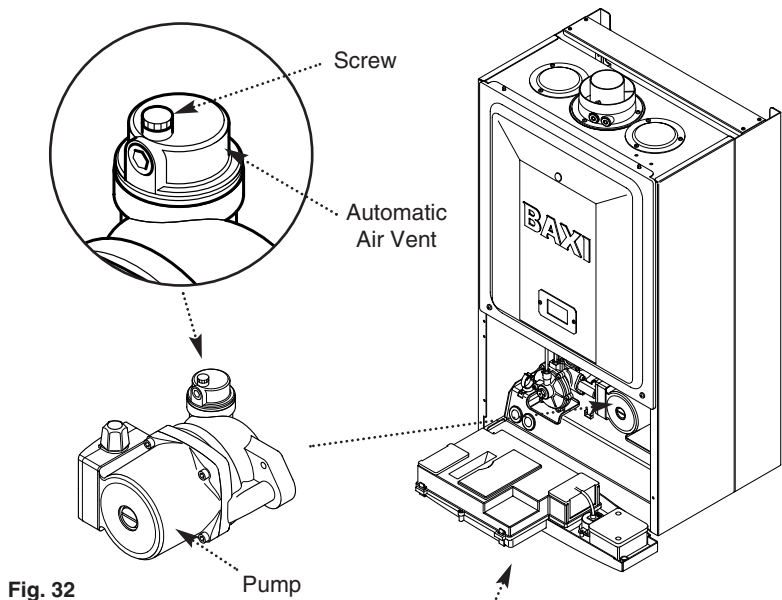

Fig. 32
5. Open the screw on the automatic air vent (Fig. 32).